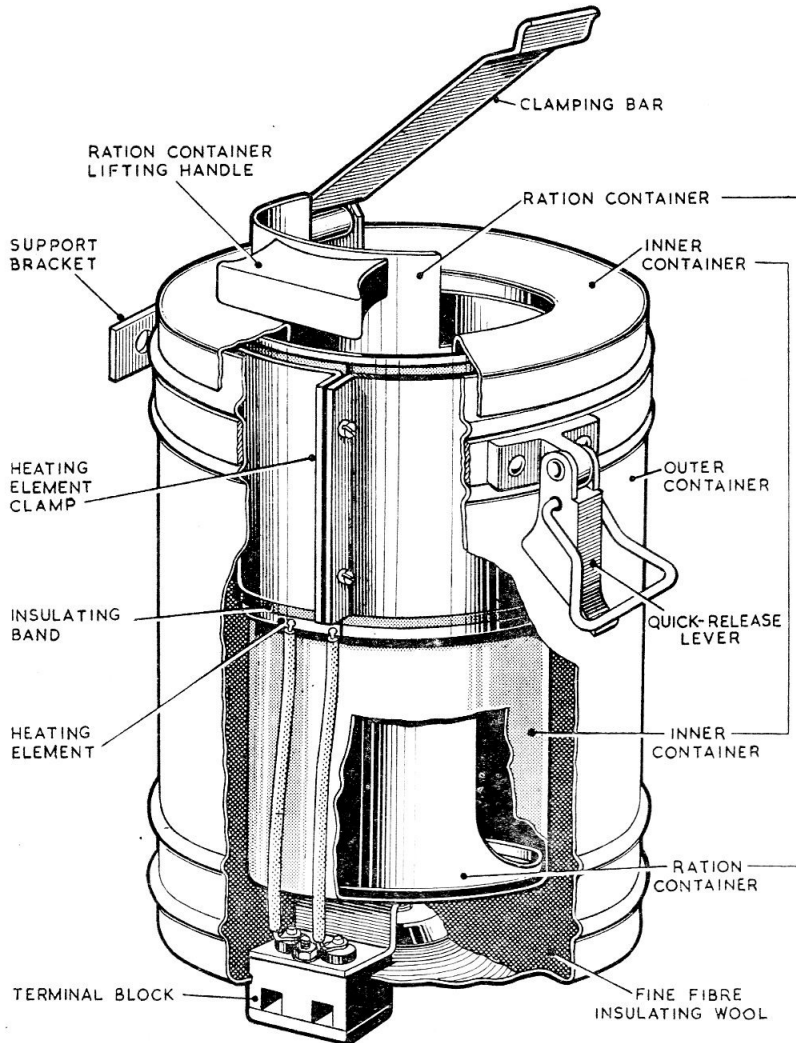

Fig. 1. Part cut-away view of the flight ration heater
Part cut away view of the flight ration heater	Fig. 1
2. The construction of the heater is illustrated in fig. 1. The ration container detachable to facilitate loading and unloading of the tins of rations; the inner container is detachable for cleaning purposes. The clamping bar, held by a quick release